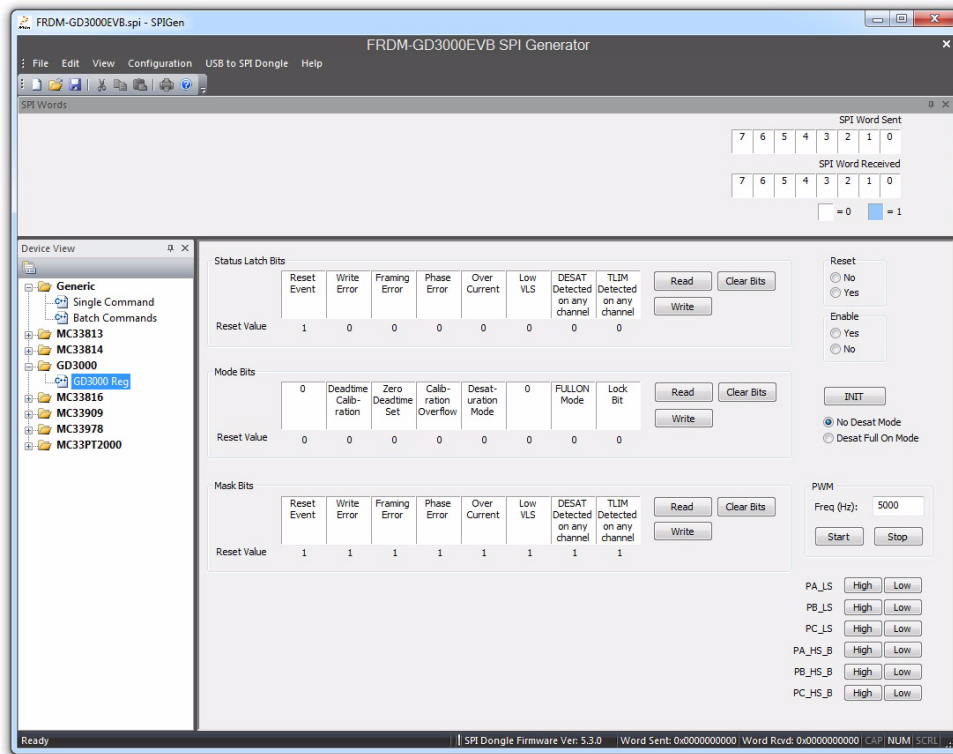

Figure 24. SPIGen GD3000 main page
1. To access the GD300 Register tab, click to open the **GD3000** folder in the **Device View** panel, then click on the **GD3000 Reg** icon. See Figure 24.